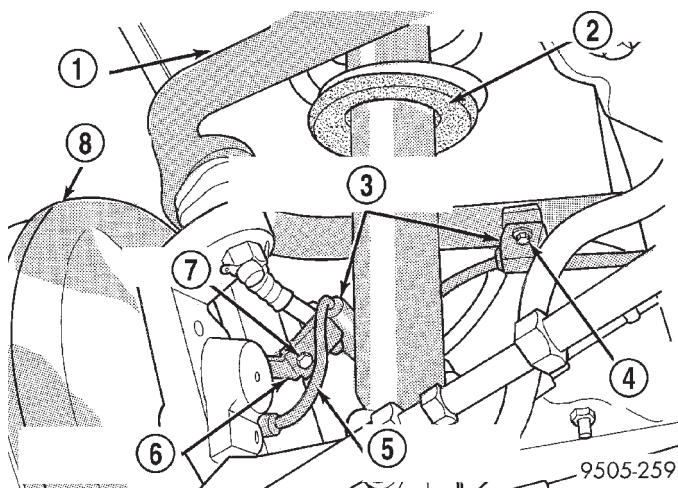

Fig. 7 Rear Wheel Speed Cable Routing And Attachment
(1) Raise vehicle on jackstands or centered on a frame contact type hoist. See Hoisting in the Lubrication and Maintenance section of this manual, for the required lifting procedure to be used for this vehicle.
(2) Remove the rear wheel and tire assembly from the vehicle.
(3) Remove rear brake drum from rear hub and bearing assembly.
(4) If vehicle is equipped with antilock brakes remove the rear wheel speed sensor from the brake support plate and brake flex hose routing bracket (Fig. 7).
(7) Attach routing bracket for speed sensor cable to brake flex hose bracket and securely tighten attaching bolt (Fig. 7).
(8) Install park brake cable into brake support plate. Ensure cable retainer is securely holding cable to support plate. Then connect park brake cable to park brake lever on brake shoe.
(9) Install rear hub and bearing assembly on knuckle and install hub and bearing assembly retaining nut. Tighten retaining nut to a torque of 250 N·m (185 ft. lbs.).
(10) Install the brake drum on the hub/bearing assembly.
(11) Install wheel and tire assembly on vehicle. Tighten the wheel mounting stud nuts in proper sequence until all nuts are torqued to half specification. Then repeat the tightening sequence to the full specified torque of 135 N·m (100 ft. lbs.).
(12) Lower vehicle.
(13) Check and reset rear wheel alignment to specifications if required. Refer to Front And Rear Alignment Setting Procedure in the Wheel Alignment Check And Adjustment section in this group of the service manual for the required alignment setting procedure.